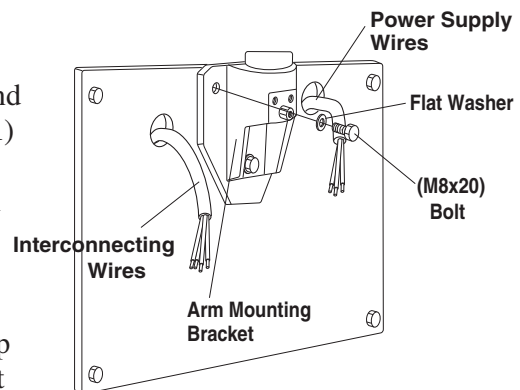

Fig.3-2 Arm Mounting Bracket Installation
1. Using three (M8 x 20mm) bolts with washers in top mounting holes and in lower mounting hole, mount arm mounting bracket to wall plate. (Fig.3-2)